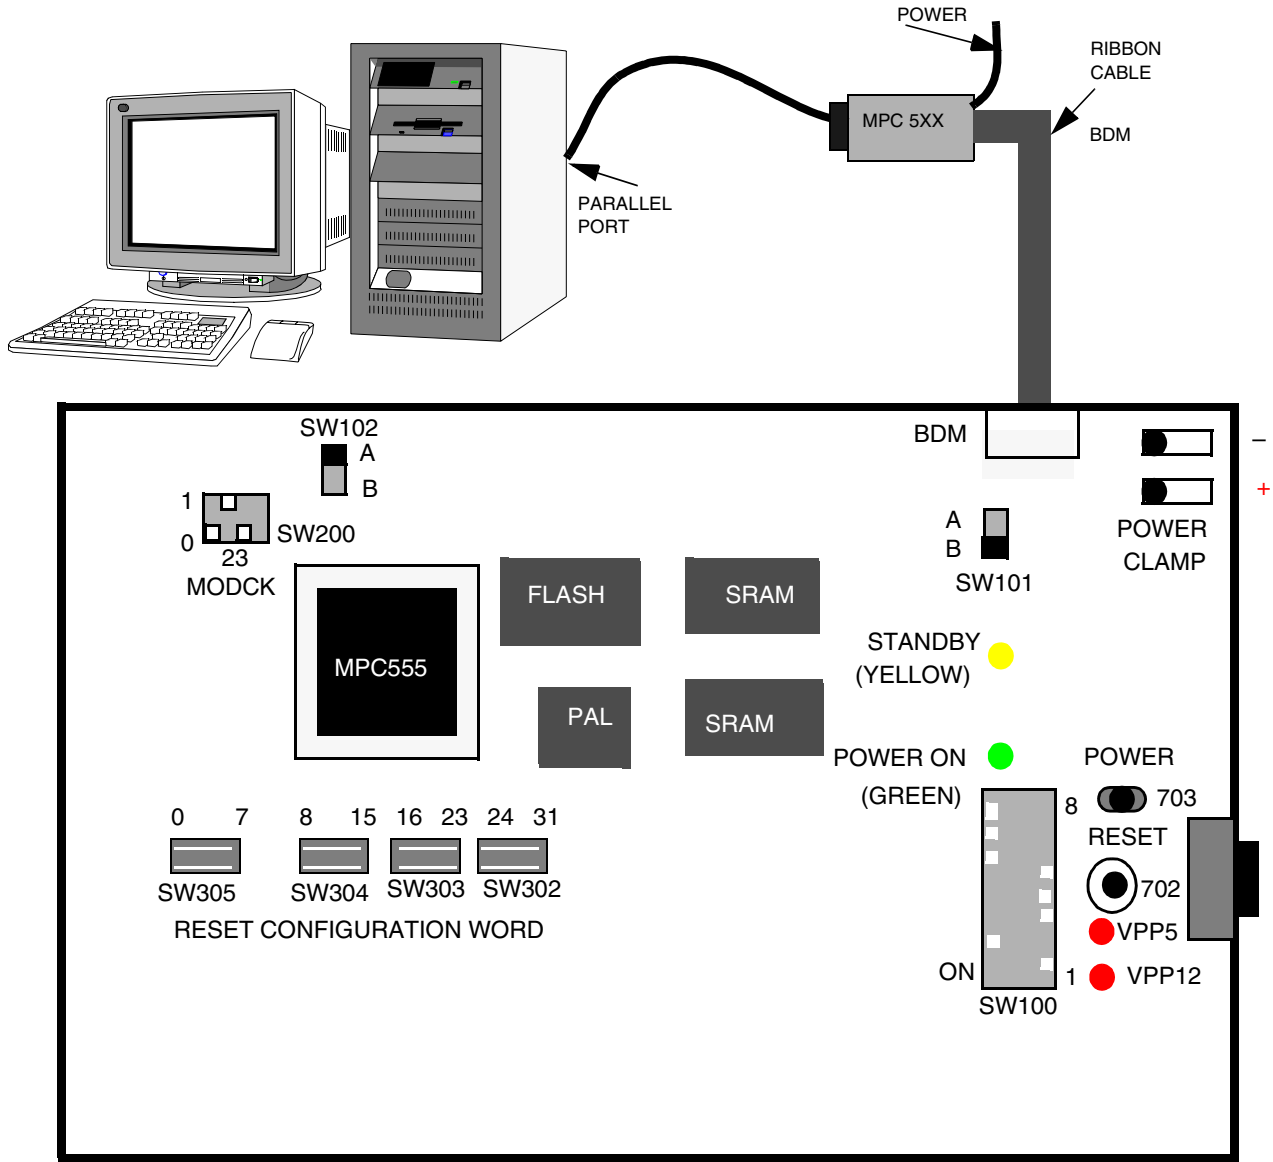

Figure 2 BDM Interface Connection
Refer to Figure 1 and Figure 2 when following these steps:
3. Attach the ribbon cable at the opposite end of the interface to the evaluation board using the 10-pin, 2-row header (Berg BDM connector) in the top right corner of the board (see Figure 1 and Figure 2).